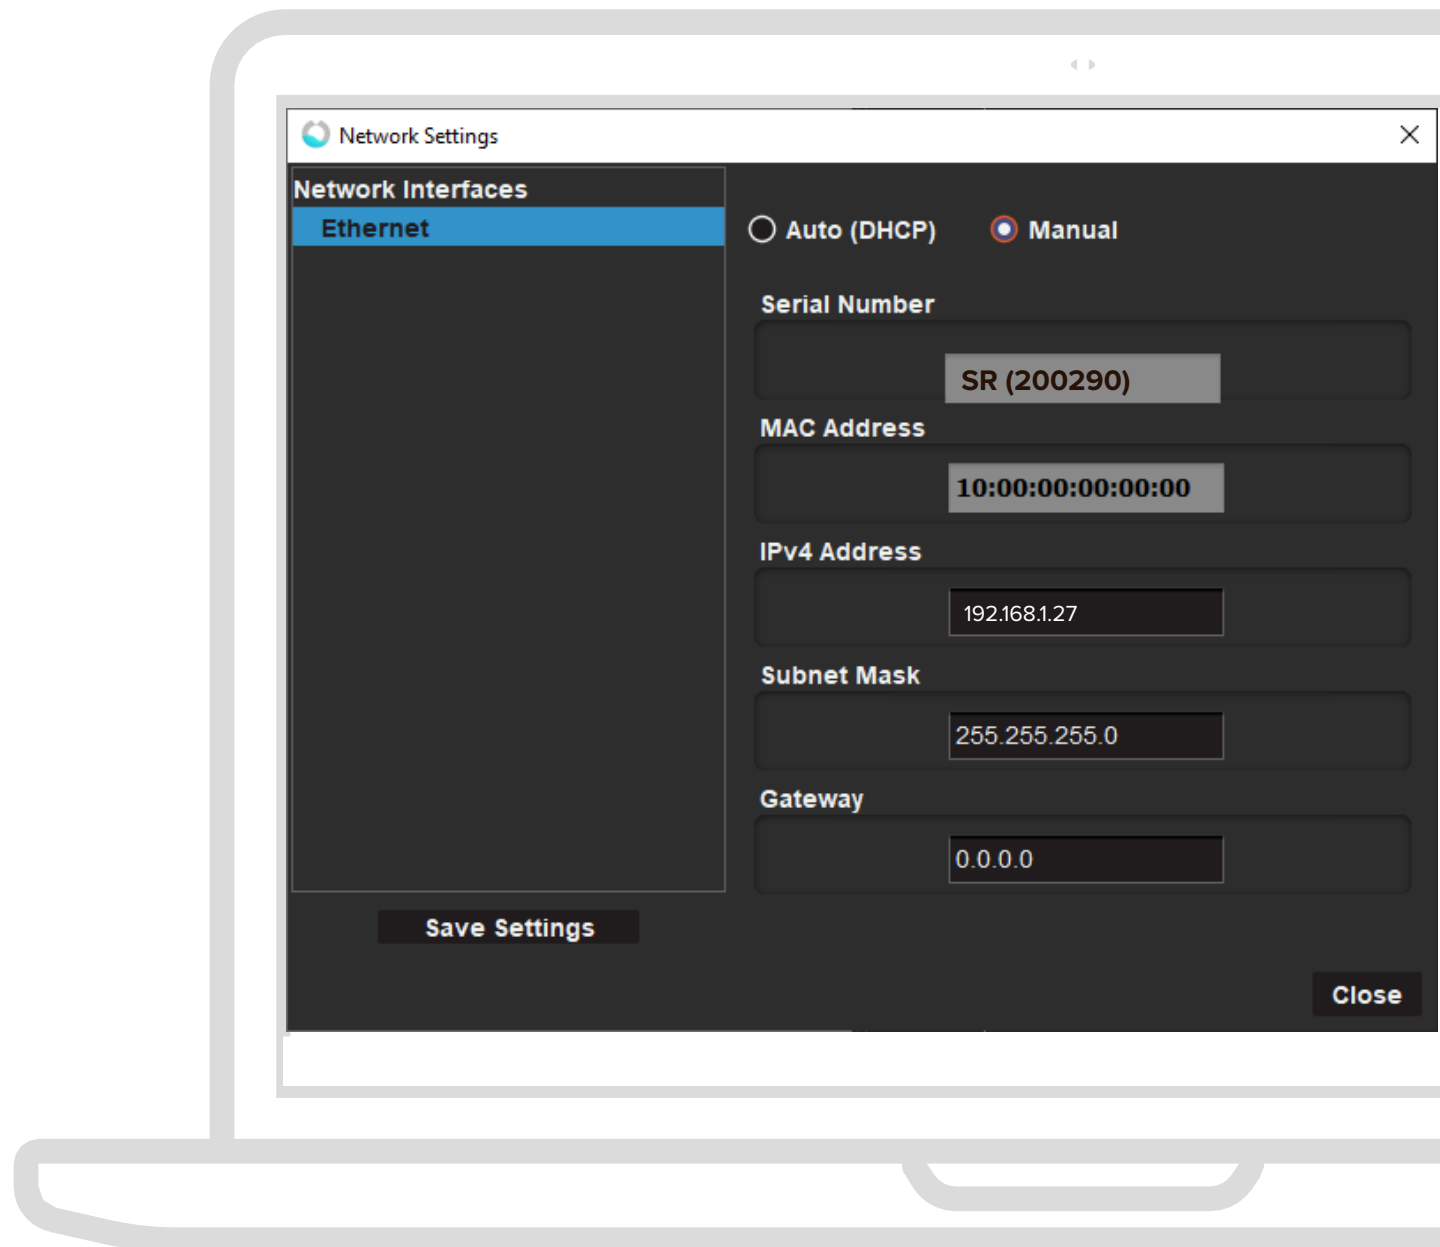

Figure 2 Network Settings window showing Manual configuration parameters
6. Right click on the spectrometer icon and then click on the "Network Setup" option from the drop-down menu. This will open the Network Settings window. An example Network Settings window is shown in Figure 2.